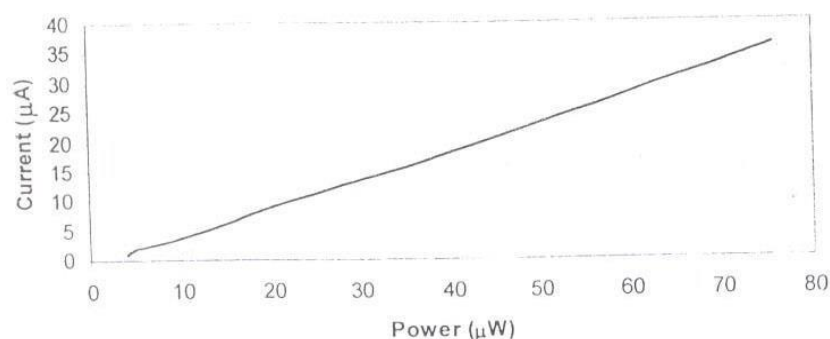

Figure 7: Power Vs Current graph
7. Plot the graph P vs I_R . The sample graph is shown in Figure 7.